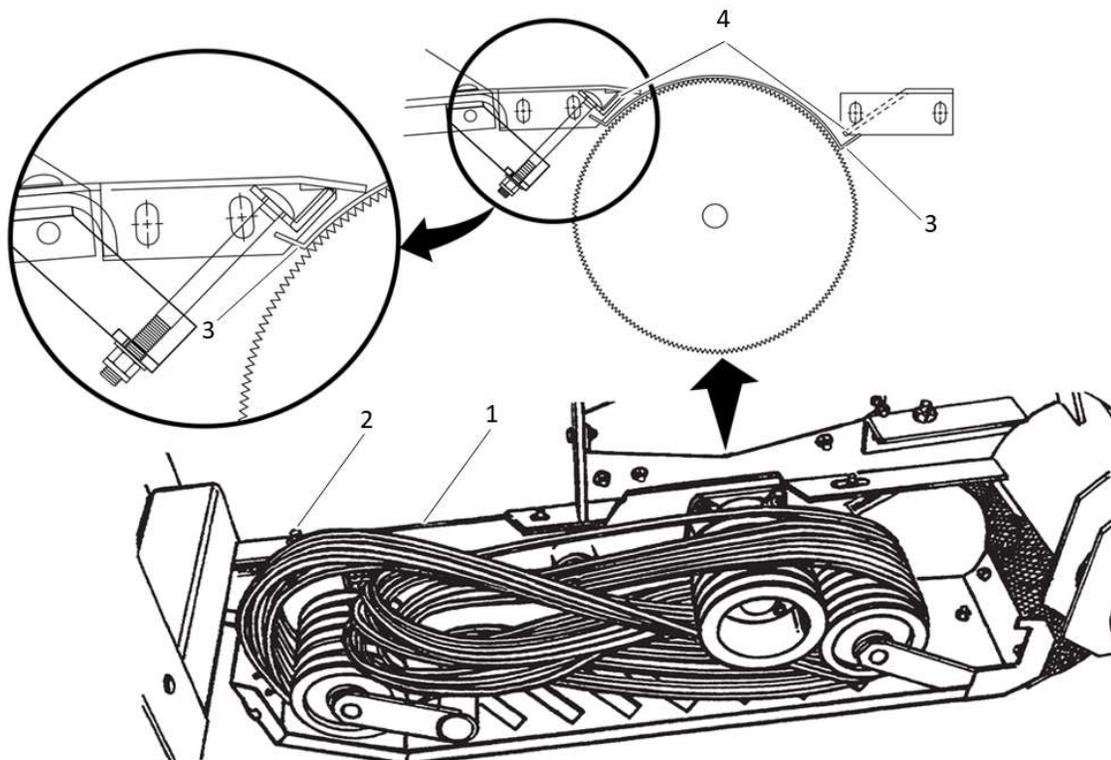

Figure 43 Half-pan alignment
STEP 10 - FIGURE 43
Lift the processor roll unit (item 1) while making sure the stainless cover (item 3) sits properly **under** the channel half-pans (item 4) as shown in FIGURE 43 HALF-PAN ALIGNMENT. Replace and tighten the frame bolts (item 2) to proper torque (See Table 1, page 22).